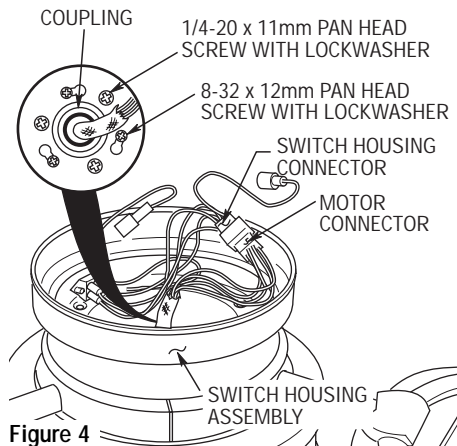

Figure 4
- 5. Insert the motor connector through the center hole in the switch housing assembly (Figure 4). Position the switch housing so that the slotted holes align with the smaller threaded holes in the coupling. Then install three 8-32 x 12mm pan head screws with lockwashers (supplied). Install three 1/4-20 x 11mm pan head screws with lockwashers (supplied) in the larger threaded holes. Tighten the screws.
- 6. Engage the connector of the switch housing assembly with the motor connector (Figure 4). The two connectors are keyed and color-coded and must